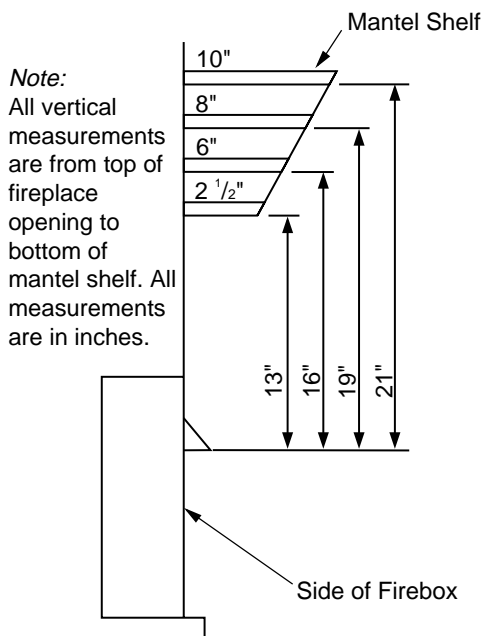

Figure 11 - Minimum Mantel Clearances for Built-In Installation
C. For mantel clearances, see Figure 11 on page 11.
Built-in installation of this fireplace involves installing fireplace into a framed-in enclosure. This makes the front of fireplace flush with wall. An optional brass trim kit accessory is available (see *Accessories*, pages 38 and 39). Brass trim will extend past sides of fireplace approximately 1/2 inch. This will cover the rough edges of the wall opening. If installing a built-in mantel above the fireplace, you must follow the clearances shown in Figure 11, page 11. Follow the instructions below to install the fireplace in this manner.